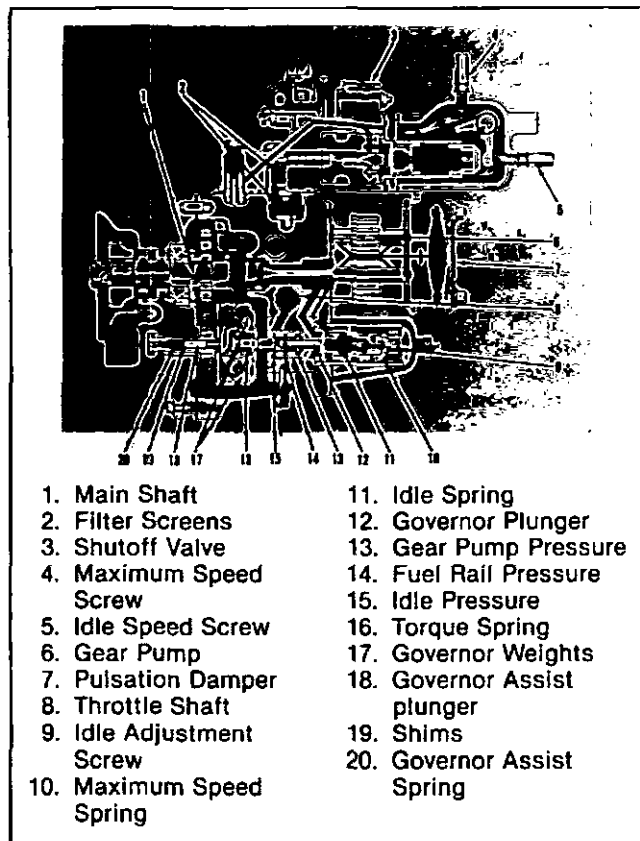

Fig. 10-65, (FWC-9). PT (type G) fuel pump with MVS governor.
1. Set the governor cut off the same way as the standard fuel pump, Fig. 10-65.